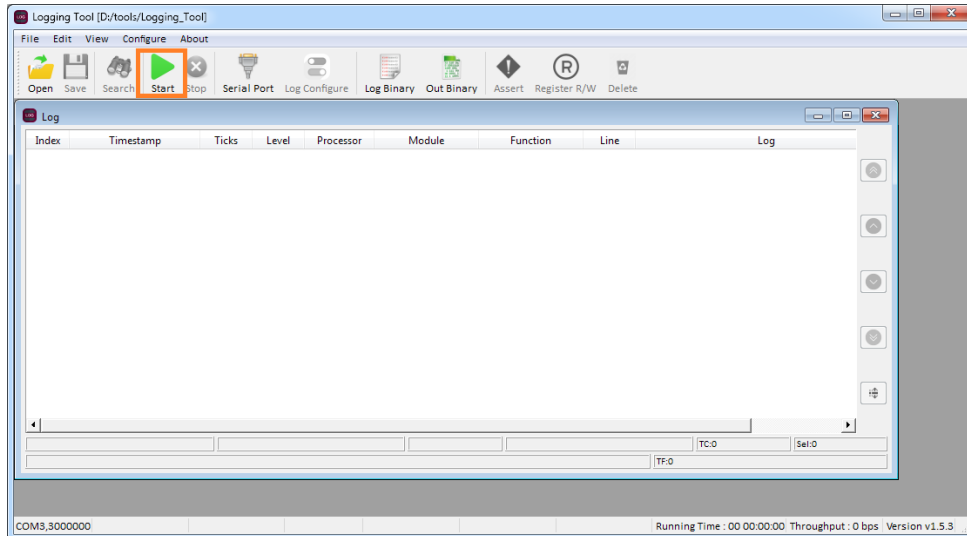

Figure 19. Start Button
- 5) Click "Start" as shown in Figure 19.